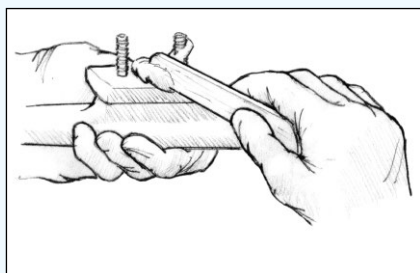

Figure 17 Coat the hardware bottom and the fastener threads with thickened epoxy.
4. Inject a non-sagging epoxy/404 or 406 mix into the hole. Use sufficient mix to ensure there are no voids in the hole after inserting the fastener. Coat the bottom of the hardware and the fastener threads with thickened epoxy (*Figure 17*).